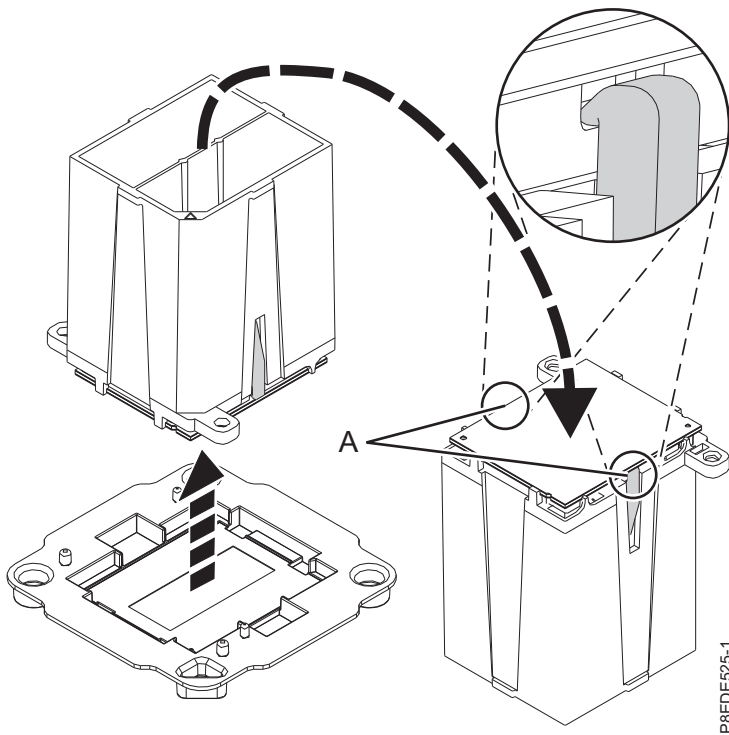

Figure 97. Preparing for system processor module installation
- b. Ensure that both jaws (**A**) are firmly grabbing the system processor module, as shown in Figure 97.